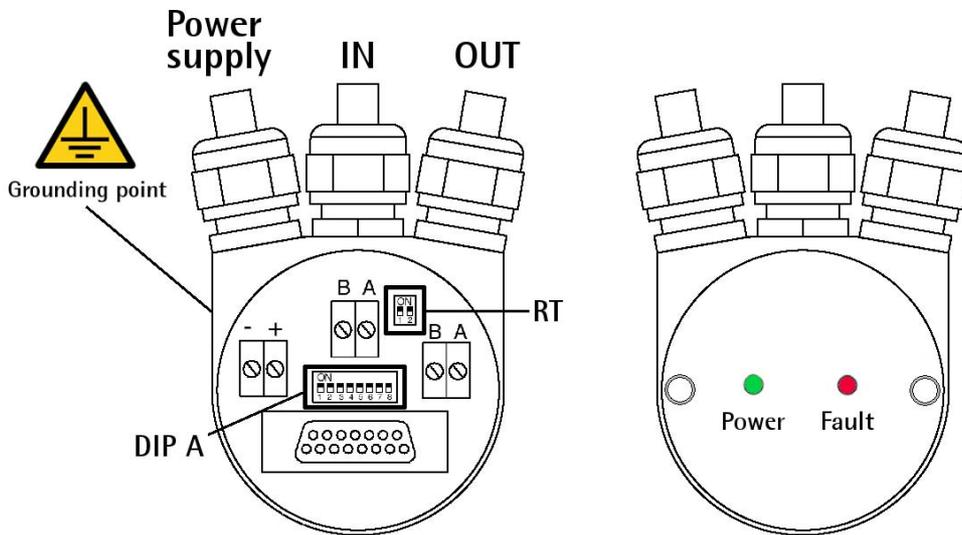

Figure 1
4.3 Connection cap with PGs (Figure 1)
4.4 Connection cap with M12 connectors (Figure 1)
4.6 Node address: DIP A (Figure 1)
After having set the device address, please check the bus termination switch position (see section “4.8 Bus termination (Figure 1)” on page 12).
4.8 Bus termination (Figure 1)
4.9 Diagnostic LEDs (Figure 1)